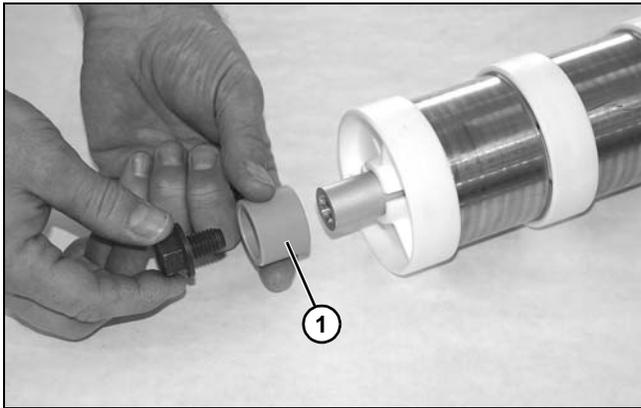

Figure 106
6. Remove tube spacer (Figure 106, item 1), as needed, from each side of assembly.